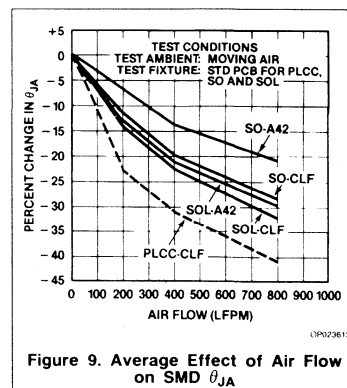

Figure 9. Average Effect of Air Flow on SMD  $\theta_{JA}$
The average lowering effect of air flow on SMD  $\theta_{JA}$  is shown in Figure 9.
- Determine  $\theta_{JA}$  @ 0.5W in 200 LFPM air flow from Average Effect of Air Flow on SMD  $\theta_{JA}$ , Figure 9.
From Figure 9: